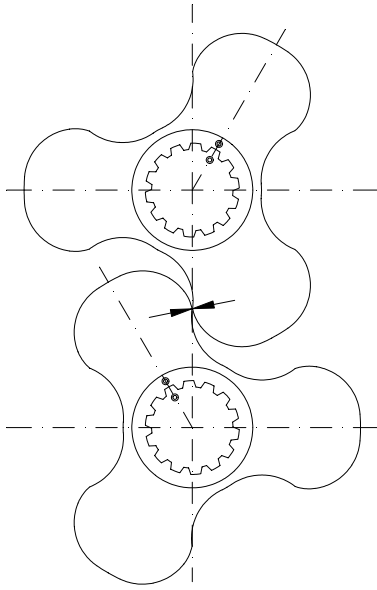
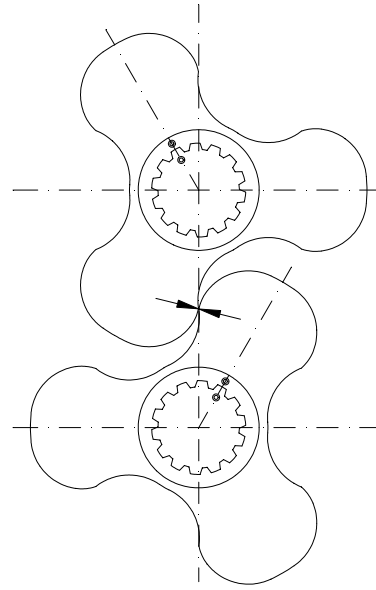

Figure 8.7
Figure 8.8
- Now rotate the lobes to the position indicated from figure 8.7. Then, rotate a little the both lobes one reference the other, until the clearance (throw) has been to indicate for table 8.3.
- Now rotate the top lobe 60° to the left; see the figure 8.8. Make sure that the clearance in this position is the same as that between the lobes in the position shown in figure 8.7.